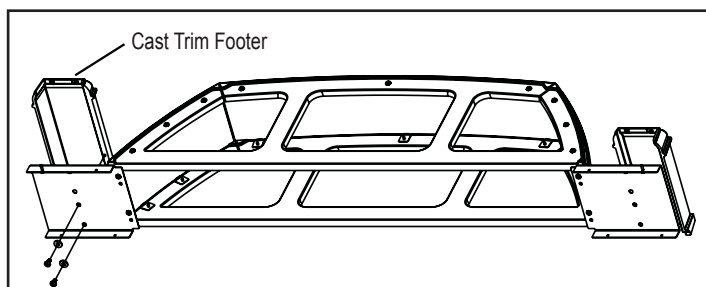

Figure 20.6
7. Attach cast footers. Figure 20.6.